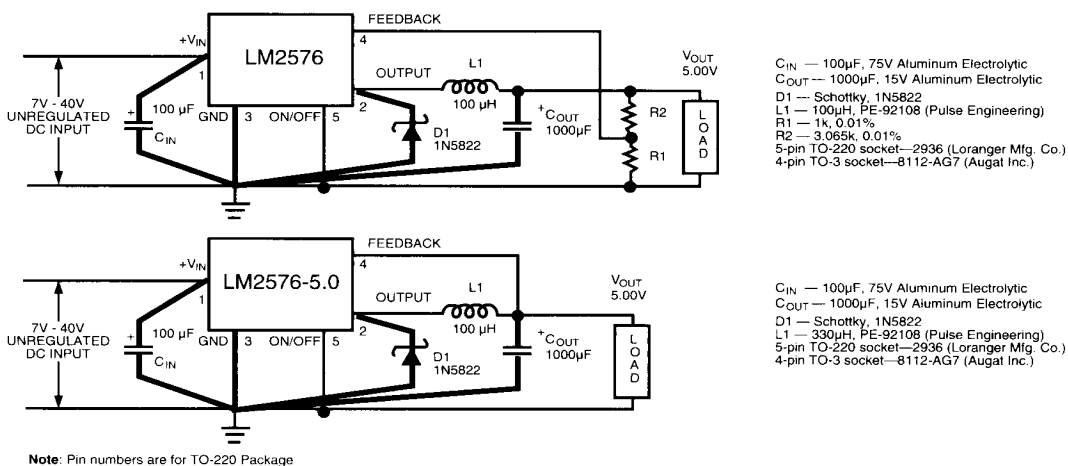

Figure 1.
SYSTEM PARAMETERS, ADJUSTABLE REGULATORS (Note 4) Test Circuit *Figure 1*
SYSTEM PARAMETERS, 3.3V REGULATORS (Note 4) Test Circuit *Figure 1*
SYSTEM PARAMETERS, 5V REGULATORS (Note 4) Test Circuit *Figure 1*
SYSTEM PARAMETERS, 12V REGULATORS (Note 4) Test Circuit *Figure 1*
SYSTEM PARAMETERS, 15V REGULATORS (Note 4) Test Circuit Figure 1
ON/OFF CONTROL, FIXED and ADJUSTABLE REGULATORS Test Circuit Figure 1
- Note 4:** External components such as the catch diode, inductor, input and output capacitors can affect switching regulator system performance. When the LM2576/LM1576 is used as shown in *Figure 1* test circuit, system performance will be shown in system parameters section of Electrical Characteristics.
Typical Performance Characteristics (continued) (Circuit of Figure 1)
Typical Performance Characteristics (Circuit of Figure 1)